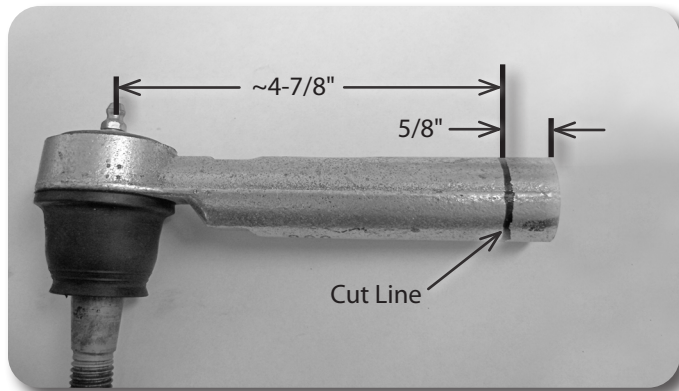
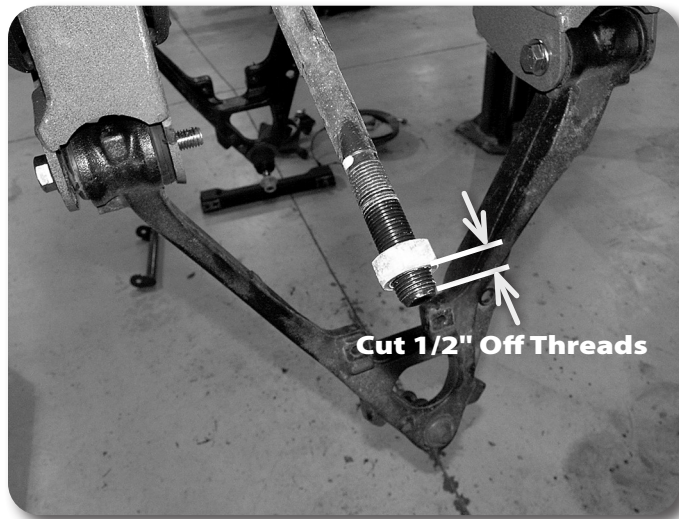

Figure 34
Figure 35
68. Working on one side at a time, remove the tie rod end from the steering link. Trim 5/8" off the tie rod end so the end to center measurement is approximately 4-7/8". **Figure 34**. Trim only 1/2" off of the steering link for maximum thread engagement. **Figure 35** Once the two pieces are trimmed, clean the ends of the threads and reinstall the tie rod end on the steering link so there is about 1/8" of threads showing on the steering link. Repeat on other side of the vehicle.